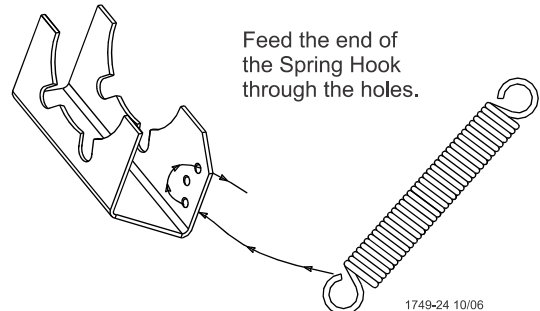

Figure 40. Spring Bracket Assembly
4. Assemble the spring to the spring bracket by sliding the loop of the spring up through the third hole in the bracket, **see figure 40**.